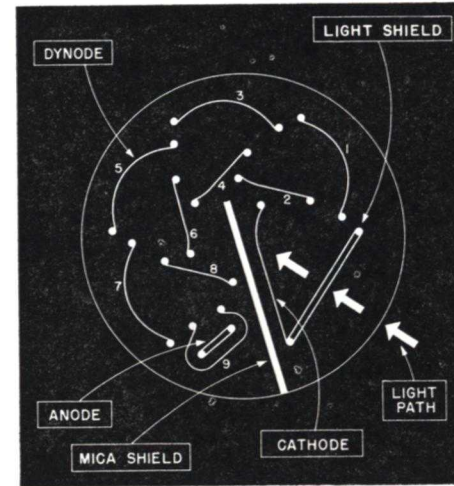

FIG. 19. The electron-multiplier cell contains a number of elements, so shaped and placed that secondary emission tremendously increases the sensitivity.
The elements of the RCA 931-A are arranged as shown in Fig. 19. The dynodes—numbered 1 through 9—are maintained at successively higher positive voltages with respect to the cathode, usually in 100-volt steps. That is, dynode 1 is 100 volts more positive than the cathode, dynode 2 is 100 volts more positive than dynode 1, and so on. The dynodes are so
The mica shield shown in Fig. 19 is used to prevent possible feedback of positive ions from the anode to the cathode. Although the glass envelope in which the tube elements are housed is as well evacuated as is commercially practicable, a small amount of air is left in it, and some of this air may be ionized by the large electron current in the space between the anode and dynode 9. If such ions were able to flow to the cathode or to one of the first dynodes, they would cause secondary emission from these elements which would, of course, be amplified by the other dynodes of the cell. This would make the electron flow through the cell undesirably erratic, and might change the amplifying characteristics of the cell considerably. The mica shield, which allows no ions to pass through it and emits no secondary electrons when struck by ions, prevents the ions from reaching the cathode or any but the highest-numbered dynodes, and so reduces their effects to a minimum.
▶ The light shield (see Fig. 19) is a small grill through which light must pass to reach the cathode. It is used principally to prevent undesired light from reaching the cathode. Also, the grill acts as an electrostatic shield, since it is electrically connected to the cathode.